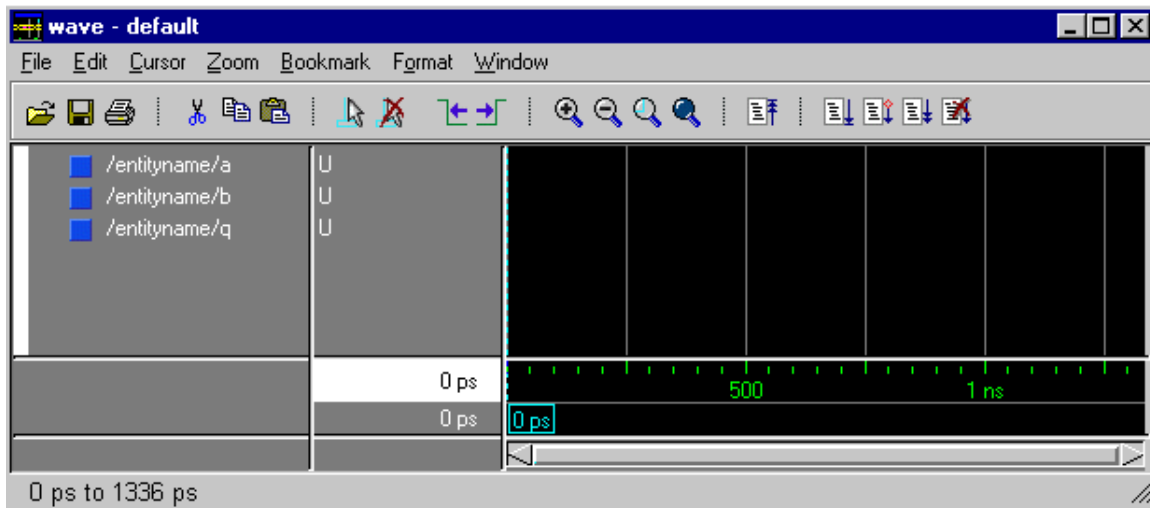

Figure 08. Wave
12. Type **add wave -r /*** to open the wave window, see **Figure 08**.